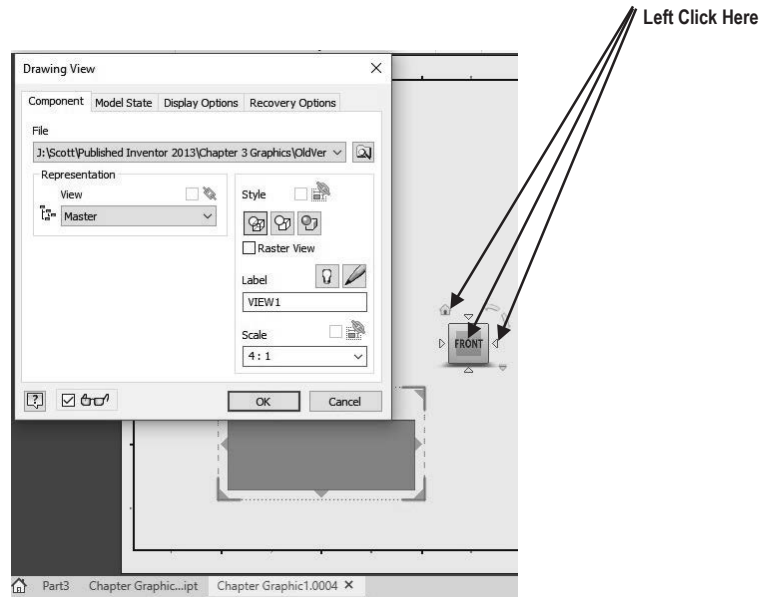

Figure 14
18. Different views can be selected for the front, top, and side views. Select the desired view from the view orientation cube as shown in Figure 14. To understand how the view orientation cube works, left click on the arrows that signify **Top**, **Left** or **Right** to have the top view, left view or right view as the front (base) view. Select the **Front** view for the base view as shown in Figure 14.